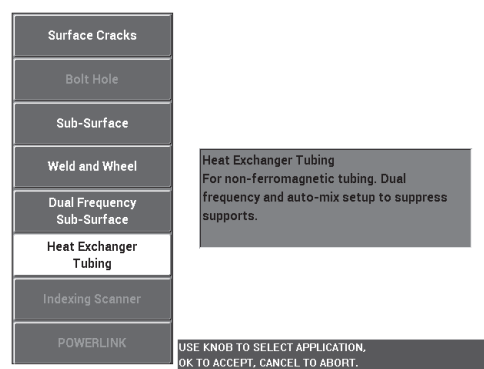

Figure 5-136 The Heat Exchanger Tubing application
2. Press the ADV SETUP menu key () once, then select **APPL SELECT** (A key) to open the application selection menu. Select **Heat Exchanger Tubing** with the knob, then press ✓ to accept (see Figure 5-136 on page 223).